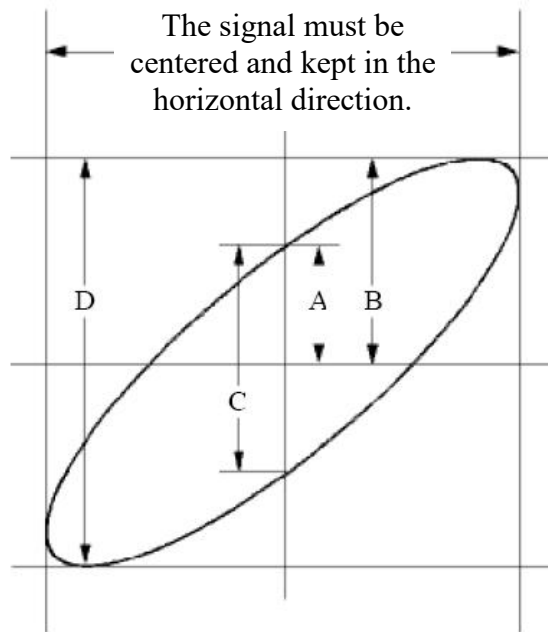

Figure 6-6 Lissajous Graph
- (1) Set the probe menu attenuation coefficient for **10X** and that of the switch in the probe for **10X** (see "*How to Set the Probe Attenuation Coefficient*" on P12).
- (2) Connect the probe of channel 1 to the input of the network and that of Channel 2 to the output of the network.
- (3) Push the **Autoset** button, with the oscilloscope turning on the signals of the two channels and displaying them in the screen.
- (4) Turn the **Vertical Scale** knob, making the amplitudes of two signals equal in the rough.
- (5) Push the **Display** button and recall the Display menu.
- (6) Select **XY Mode** in the bottom menu. Select **Enable** as **ON** in the right menu. The oscilloscope will display the input and terminal characteristics of the network in the Lissajous graph form.
- (7) Turn the **Vertical Scale** and **Vertical Position** knobs, optimizing the waveform.
- (8) With the elliptical oscillogram method adopted, observe and calculate the phase difference (see *Figure 6-6*).